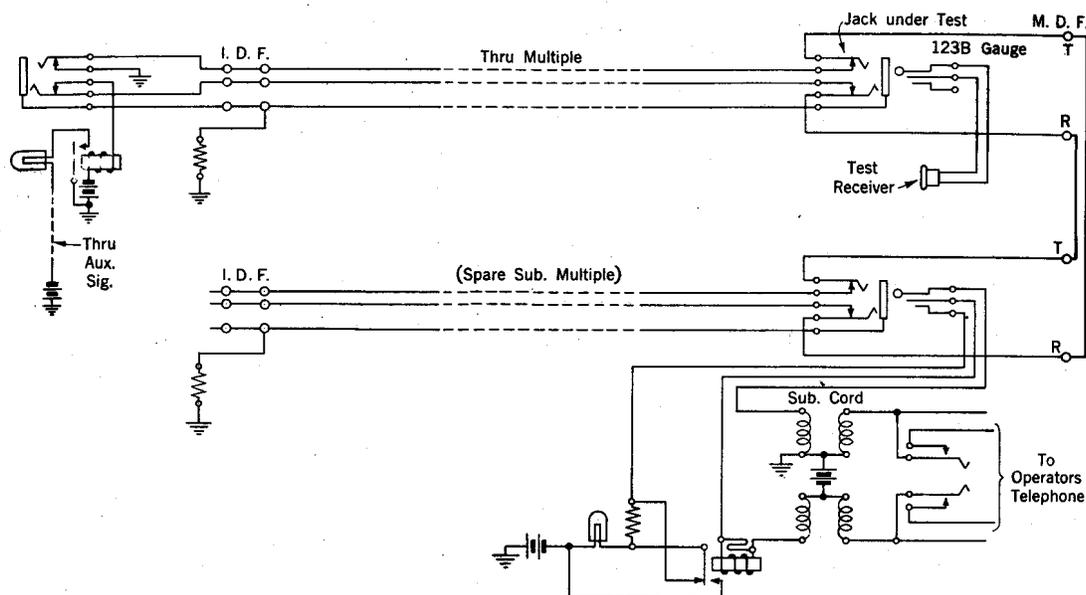

Fig. 4 - Test without a Test Circuit - First Jack
3.19 Make a temporary connection of the tip and ring of the circuit to be tested to the spare multiple circuit (tip and ring reversed). See Fig. 4. Use either cross-connection wire run temporarily or a cord with suitable connectors.